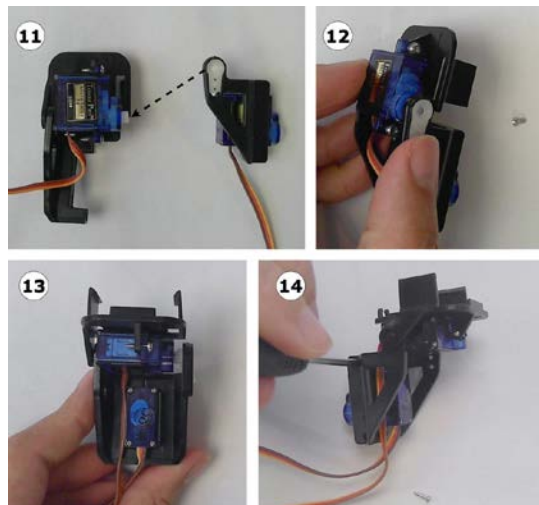

Figure 10.14 – Combining the left arm and right arm
1. *Figure 10.14* shows how to bring the left and right arm of the mechanism together. When combining the arms, the right arm servo horn's collar should clip around the tilt servo you screwed onto the tilt plate.